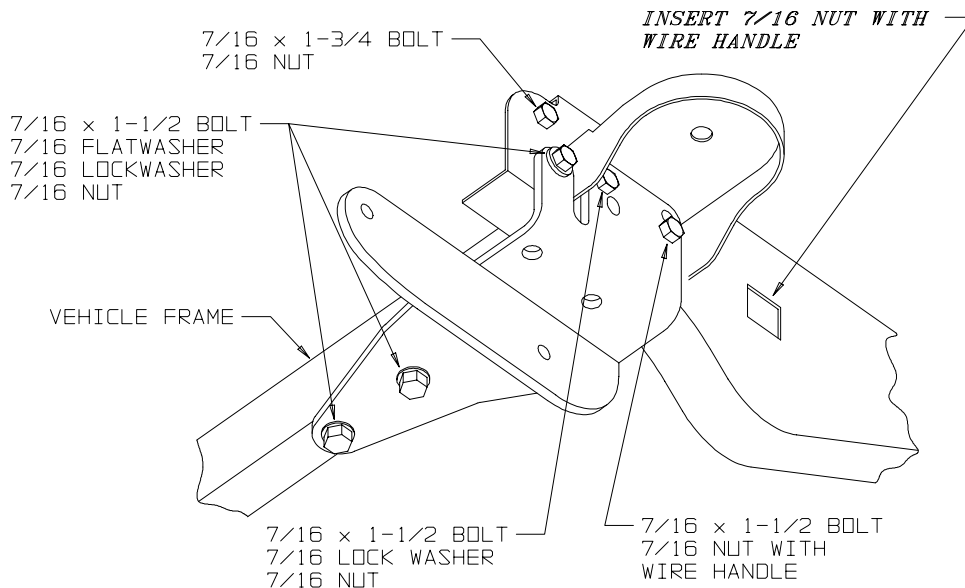

Figure 2
3. Install upper front bolt (7/16 x 1-3/4 furnished with kit) connecting factory bumper bracket to frame and tighten securely. See **Figure 2**. Now remove the rear factory bumper bracket bolt.